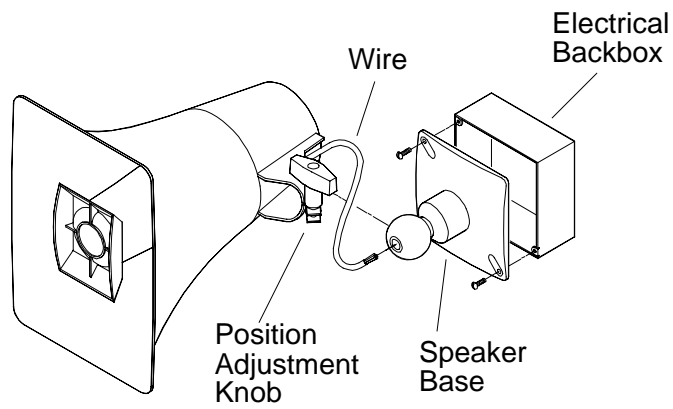

Figure 2 - Mounting to an Electrical Backbox
- Connection to an electrical backbox is accomplished by channeling wire through the ball of the base (See Figure 2) and making appropriate connections. The base has holes punched for a double-gang square box, but by punching out additional knockout holes, the base can be mounted to a single-gang or octagon box.